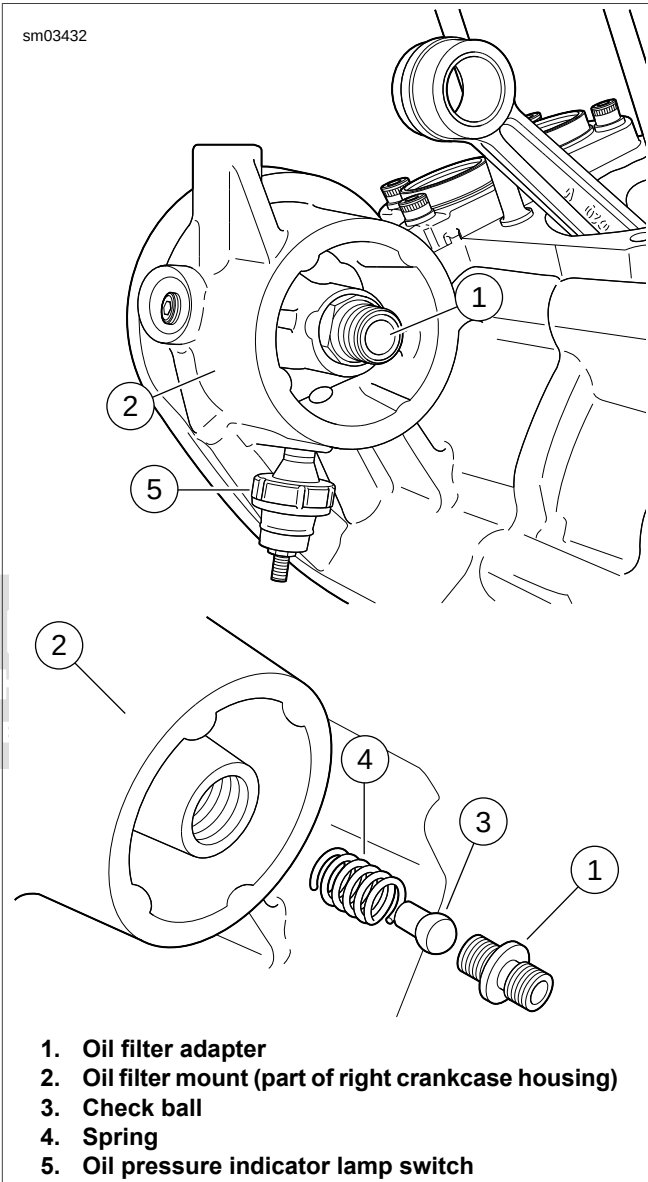

Figure 3-172. Oil Filter Mount, Typical (XL model shown)
2. See Figure 3-172. Remove oil filter adapter (1) from oil filter mount (2).
3. Remove check ball (3) and spring (4).
1. See Figure 3-172. Place spring (4) and check ball (3) into threaded hole at center of mount (2). Push oil filter adapter against ball to compress spring.